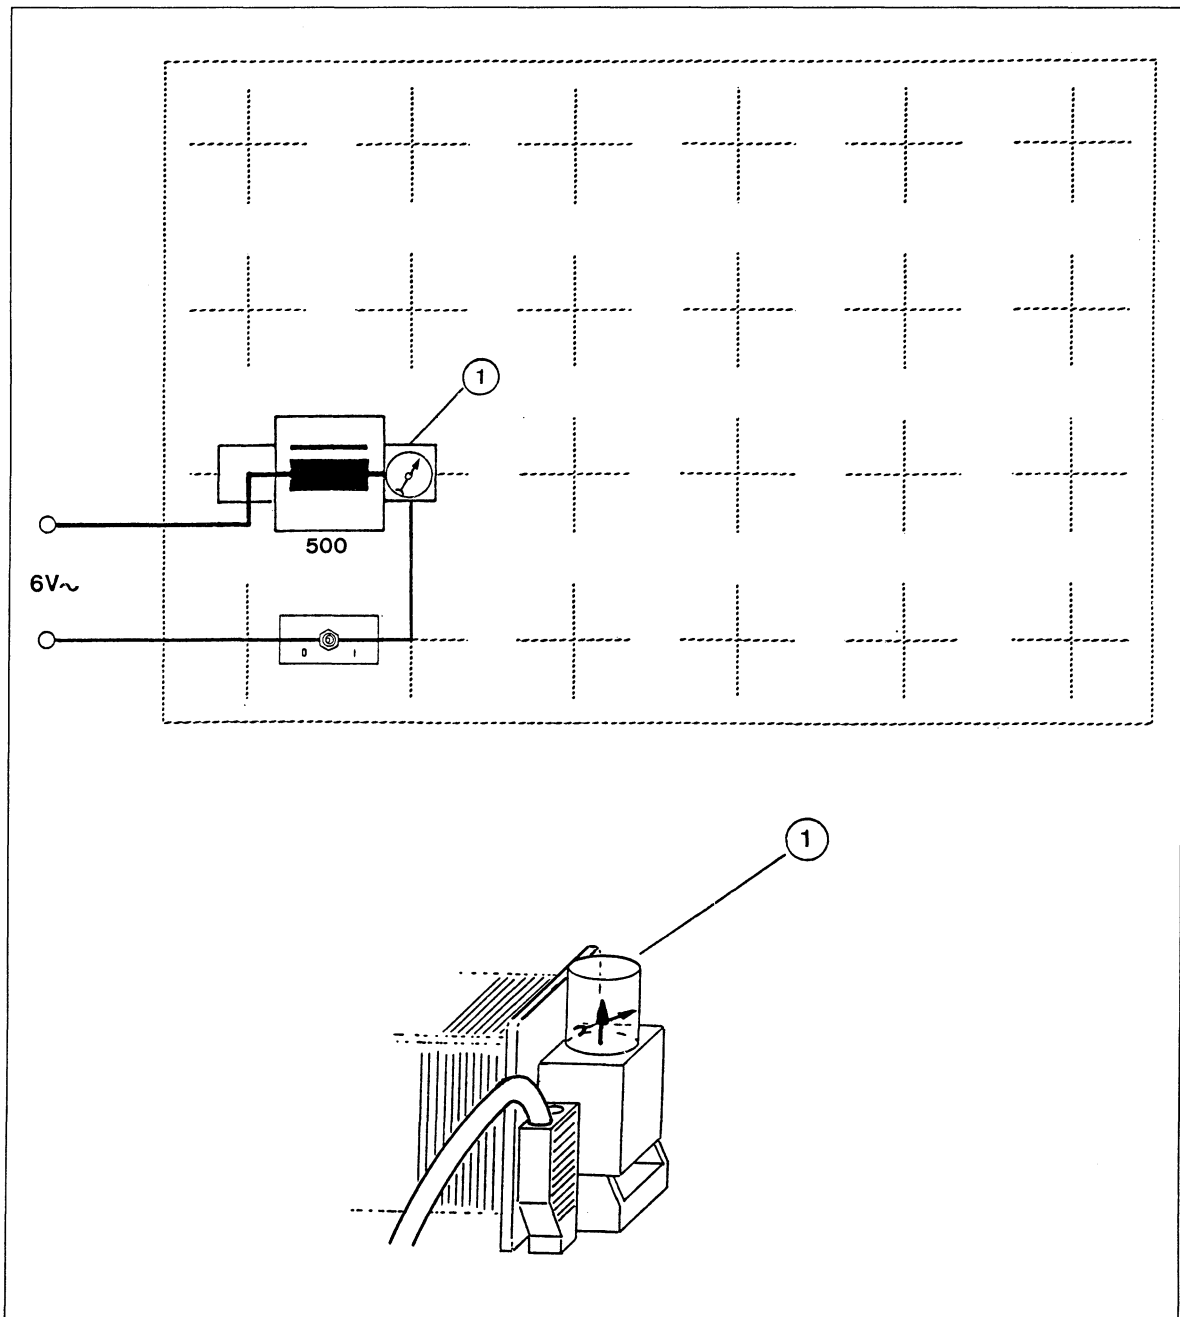

Fig. 1 Experiment setup: model of a synchronous motor
1. Set up the circuit as shown in Fig. 1. Make sure the switch is set to position 0 (open).
3. Place the plotting compass on the I-core (the yoke) as shown in the detail drawing in Fig. 1.